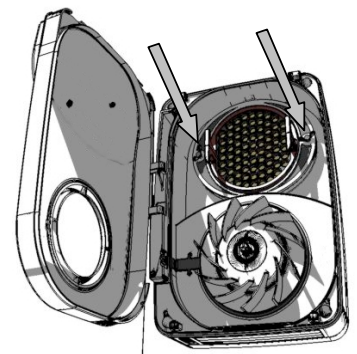

Figure 12.
10. Fit Heat Exchanger Retaining Clamp with screws provided - Figure 12.